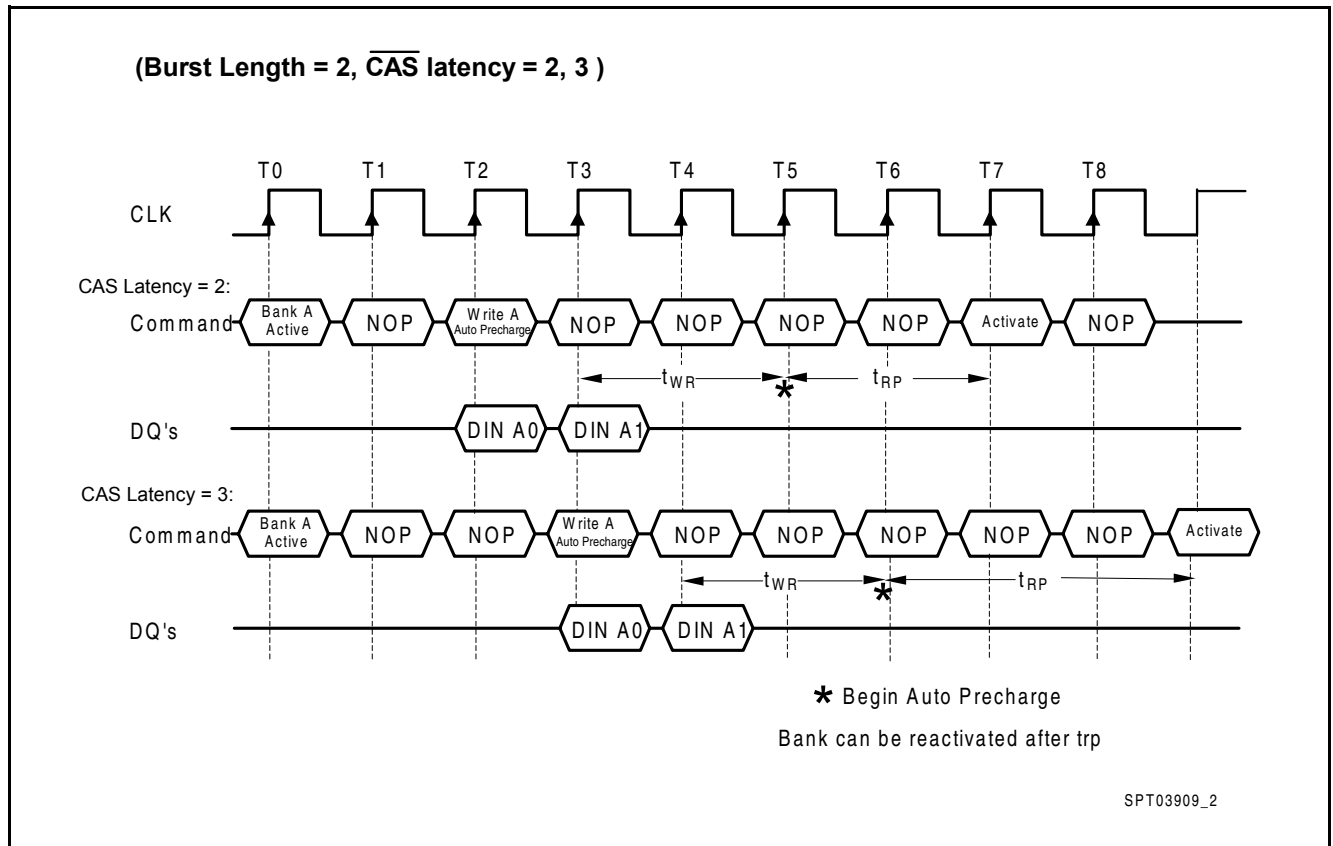

Figure 14 Burst Write with Auto-Precharge
- **Figure 14** Burst Write with Auto-Precharge